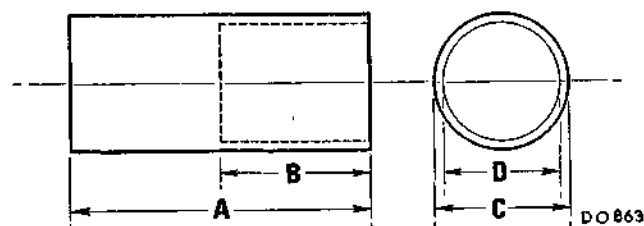

Fig. N.28
30. Fit a tube of the dimensions given in Fig. N.28 over the